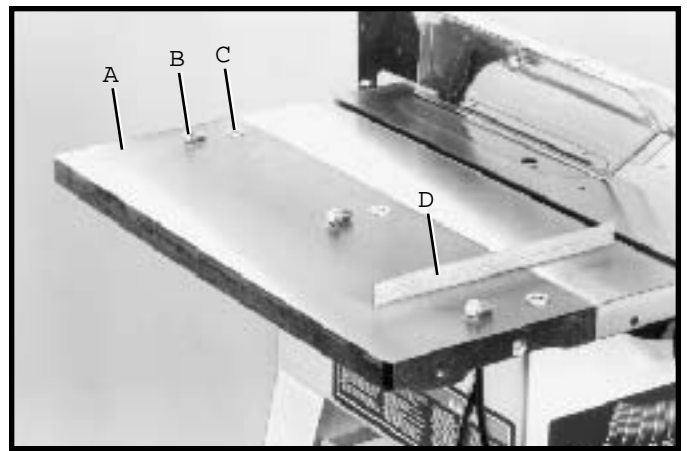
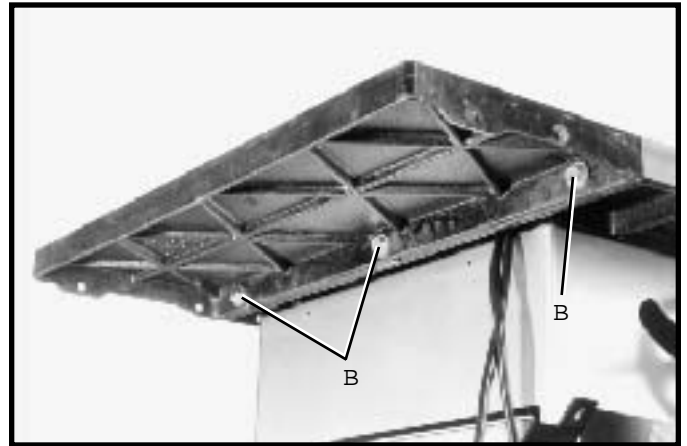

Fig. 36
Fig. 37
1 Assemble extension wing (A) Fig. 36, to the saw table using three 7/16-20 x 1-1/4" screws (B) and lock-washers (C) as shown in Fig. 37.
2 With a straight edge (D) Fig. 36, make certain the extension wing (A) is level with the saw table before tightening three screws (B) Fig. 37.